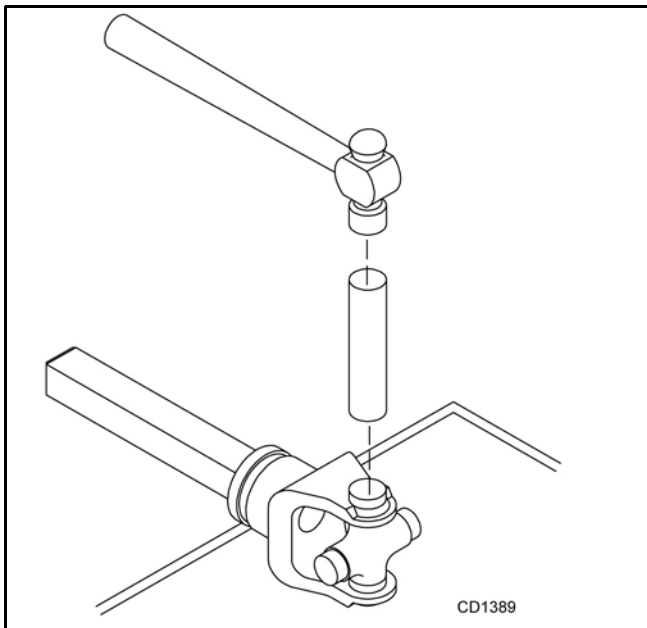

Figure 31. Install Cups
3. Seat cups by placing a drift or socket (slightly smaller than the cup) on cup and rap with a hammer. See Figure 31. Install snap ring and repeat on opposite cup